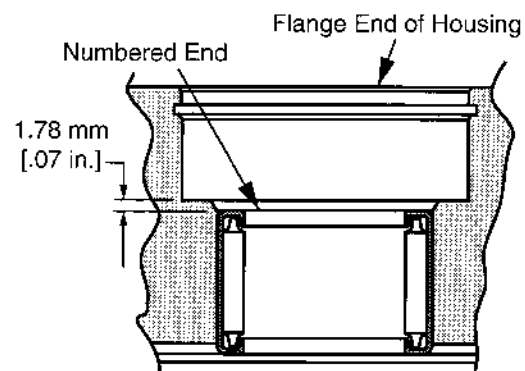

Figure 1-4
- Check the bearing (press fit) in front of housing. If needles remain in cage, move freely, and setting at the dimension shown in figure 1-4, removal not required.
2 If necessary, press new bearing in housing to dimension shown in figure 1-4 with the numbered end of bearing outward.